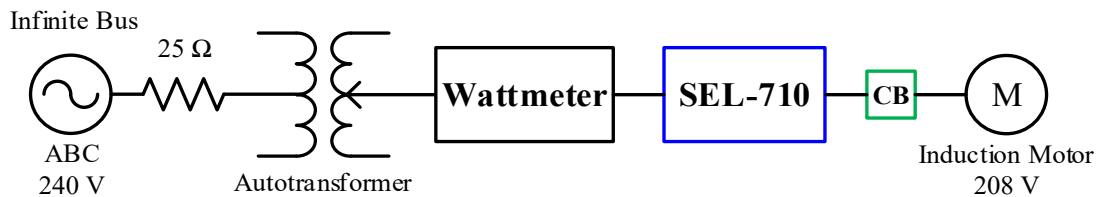

Figure 65: SEL-710 Procedure Single-Line Diagram
- a) Calculate the negative-sequence currents (in Amps) produced by bolted line-to-line and single-line-to-ground faults at Bus 1 in Figure 65.
- c) Calculate the phase current (in Amps) for the faulted phase in a single-line-to-ground fault at Bus 1 in Figure 65.